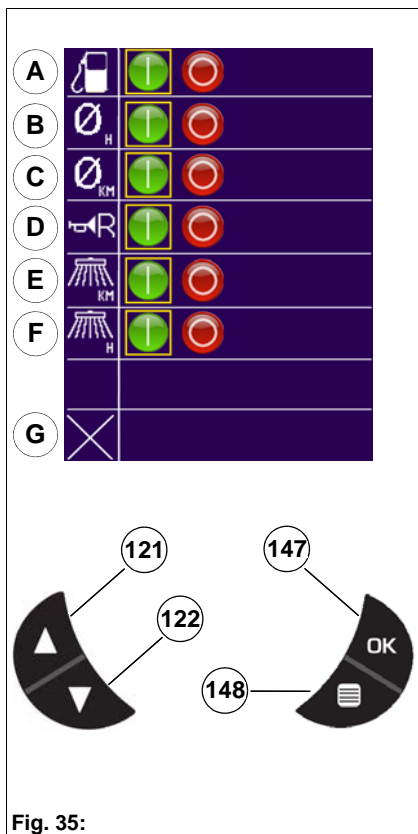

Fig. 35:
The following displays can be edited with the selection menu for display sizes **Fig. 35**:
- Use the SCROLL UP button **Fig. 35-121** or the SCROLL DOWN button **Fig. 35-122** to select the symbol **Fig. 35-A, B, D, E or F**.
To exit the selection menu for display sizes, select the icon EXIT **Fig. 35 -G** and confirm.